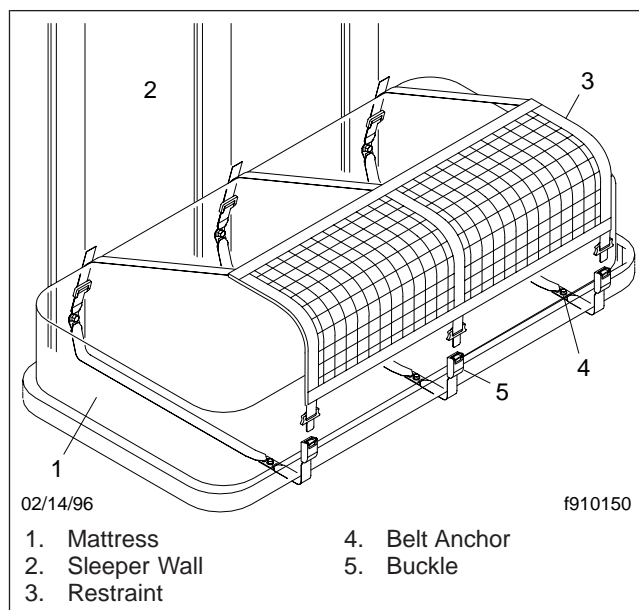

Fig. 5.13, Bunk Restraint
1. Starting at the foot of the bunk, pull up the link end of the belt far enough to engage the buckle. See **Fig. 5.13**.